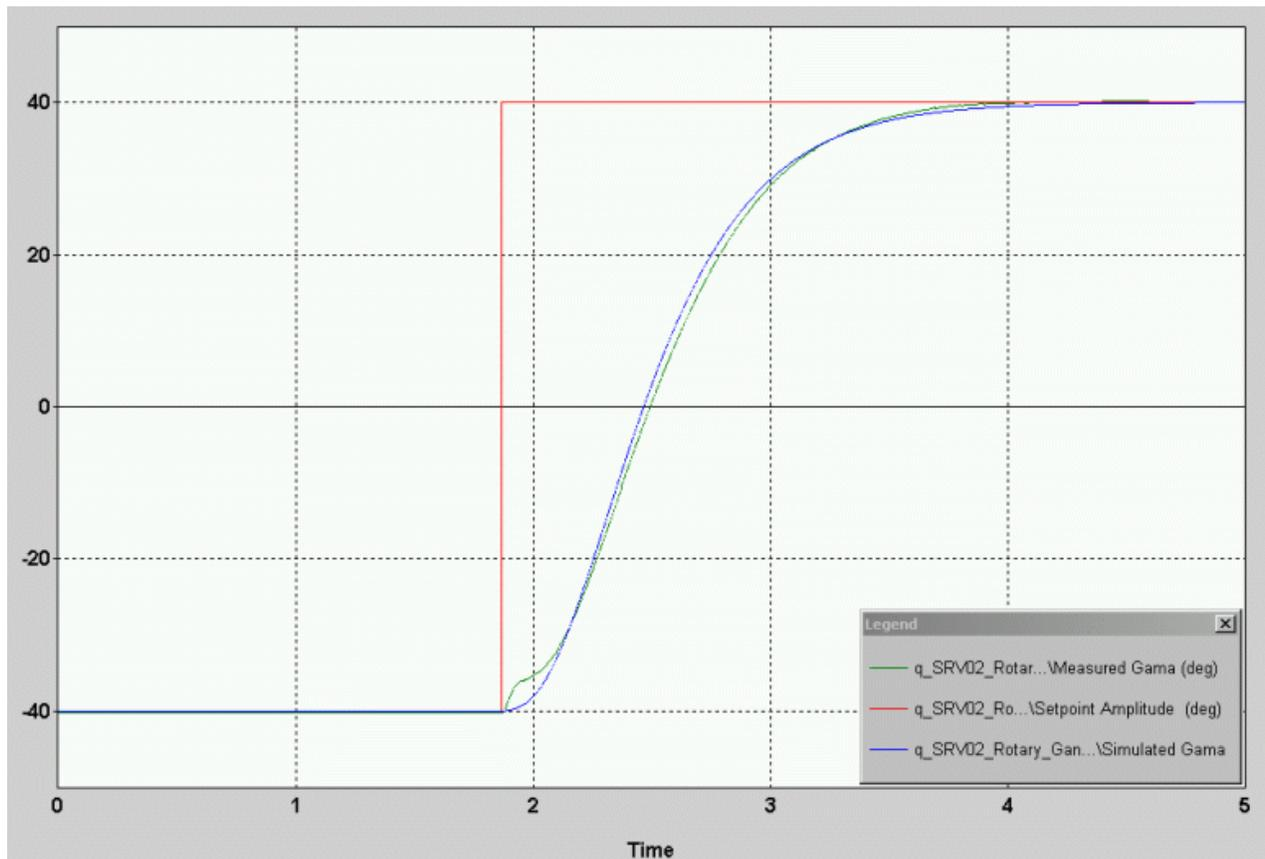

Figure 6 - Command, Measured and Simulated Response
- v. After *fine-tuning* the controller, include the final value you chose for  $K_i$ . Make sure to include the final plot demonstrating the controller has met the requirements. This plot should look similar to Figure 6.